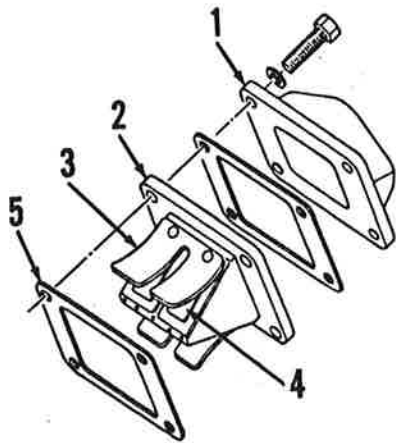
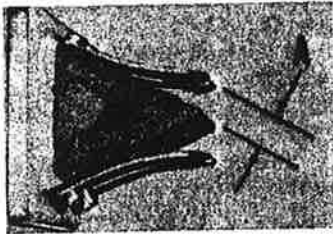
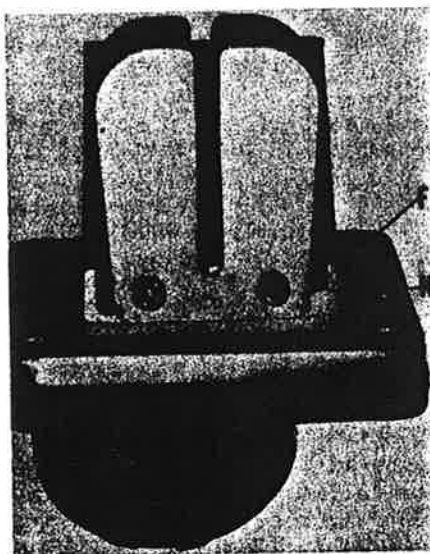

Fig. Y19-16—View of typical reed manifold assembly.
Fig. Y19-17—Height (A) of reed stopper plate should be 9.3-9.6mm.
Fig. Y19-18—Cutaway (N) at edge of reed petal should be installed next to flat (F) on reed stopper plate.
Inspect reed petals (4—Fig. Y19-16) for cracks or tears. Petals should be renewed if any flaws are detected. Curve of reed stopper plate (3) should be smooth and free of kinks or rough spots. Check rubber coating on reed block (2) for cracking or peeling. Height (A—Fig. Y19-17) of reed stopper should be 9.3-9.6mm (0.36-0.38 in.). When reassembling unit, place corner of reed petal with notch (N—Fig. Y19-18) beneath corner of reed stopper plate with flat (F).